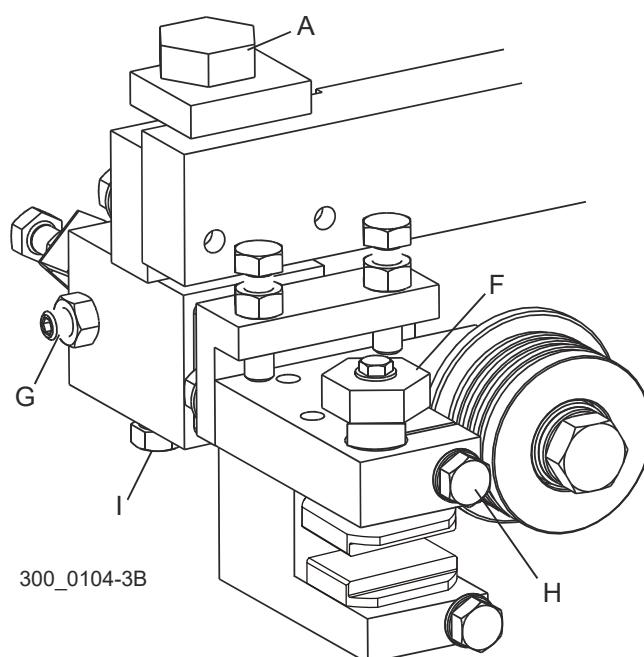

FIG. 3-39
See **Figure 3-39. Standard Roller/Block Guides:** Move the guide assembly forward until the roller flange is 1/16"-1/8" from the back edge of the blade and tighten clamp bolts (G) and (I). Turn blade guide assembly bolt (A) clockwise to raise the bottom guide block up until it touches the blade, but does not deflect it upward. Turn top guide block bolt (F) clockwise to move top block down until it touches the blade, then back 1/4 turn. Tighten clamp bolt (H). Repeat for other blade guide assembly.